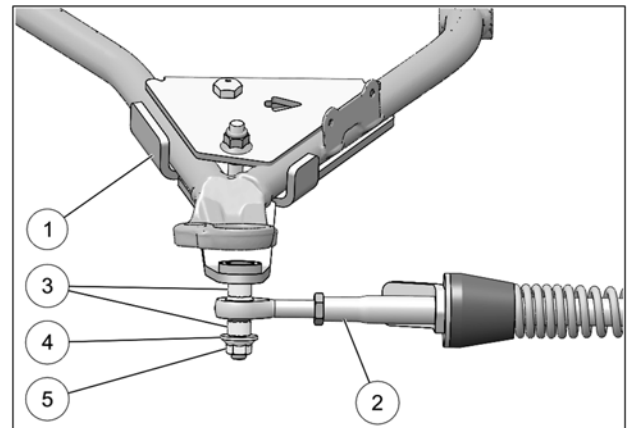

Fig. 19
- Attach the stabilizing rod (2) to the anchor bracket (1), using spacers (3), washer (4), and nut (5). Torque to $70\text{ N}\cdot\text{m}$ [$52\text{ lb}\cdot\text{ft}$]. Refer to Fig. 19